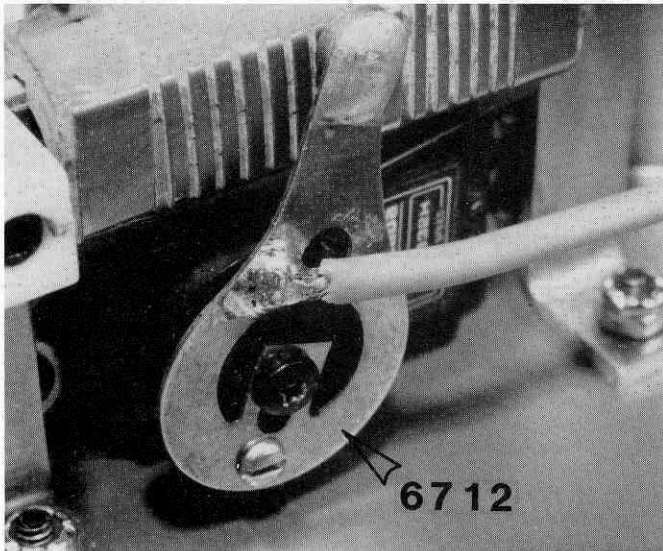

Fig. 128
□ **Fig. 128** Center the servo output arm (or horn), as before, then turn it about 30 degrees to the right, or drivers side, of the photo. Locate the #6712 wiper arm (in bag #6-13) so that it is in the exact location shown and note the closest holes in the servo arm/horn to this location. Mount the wiper arm to these holes using the servo arm mounting screw (for the center) and the small #2 self tapping screw and #2 flat washer on the bottom. These are in bag #6-13. Solder the red wire from the #6745 motor output plug to the wiper arm in the location shown in the photo. NOTE: If your servo arm or horn has a raised center then use the extra #2 flat washer between the wiper arm and servo arm/horn to stand the wiper off from the edge of the servo arm. Install the servo arm/horn and wiper arm onto the servo output shaft and secure with the servo arm/horn screw.
Take your charged transmitter, pull up the antenna, and turn on the transmitter power switch. **Make sure that the motor is not plugged into the speed control before we plug in the battery.** Now plug your battery into the wiring plug as shown. If your servos moved, then your switch was in the "ON" position. Turn it off if it was on. Make sure that your switch is correctly marked "ON" and "OFF." Now with the transmitter still on turn your switch on for one or two seconds and switch it back off. Refer to fig. 128 and see if your resistor arm is close to this position. If it is not, remove the servo horn screw, then the servo arm/horn and wiper arm. Turn the switch back on. Advance the throttle arm on the transmitter. See if the servo output shaft rotates in the proper direction. If it does not, then locate the throttle servo reversing switch and slide it to its other position. Now recheck the rotation of the servo output shaft. Now turn the car off first then the transmitter.
Reinstall the servo arm/horn and wiper arm close to the location shown on photo in fig. 128. Turn the transmitter back on and then the car switch. The wiper arm should be close to the position in fig. 128. Pull the throttle half way. The wiper arm should be close to the position